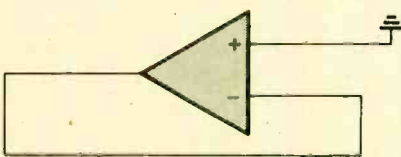

Fig. 6. The output of an unused op-amp should be tied to the inverting input. That dampens any possible oscillation.
Fig. 6. Series-parallel connection can enable you to use multiple speakers without a constant voltage line. You must determine the total number of speakers needed (T), then take the square root of that number to find the number of speakers to place in a series group and the number of groups to connect in parallel. This system only works with numbers that have whole numbers as their square root.
When a large number of speakers are grouped close together in an array, you can match the impedance using series-parallel connections like that shown in Fig. 6. That scheme eliminates the need for a constant-voltage line and the associated transformers that would be required.